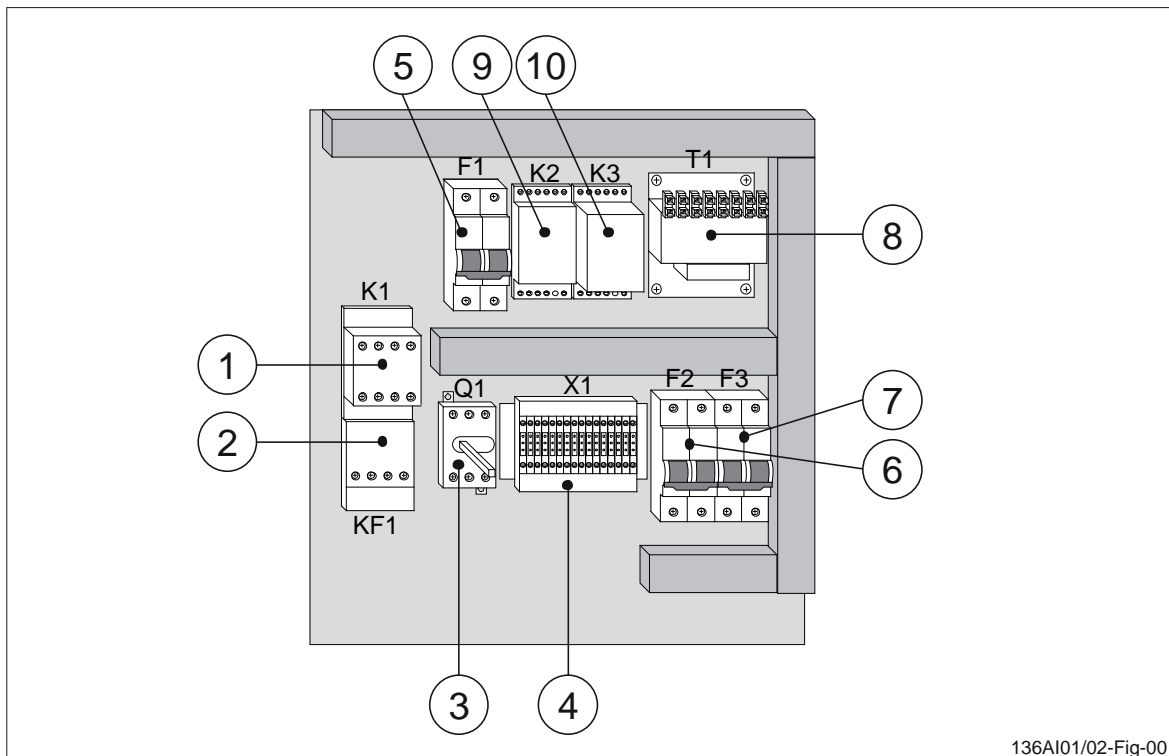

Figure 15 Internal equipment of pump motor starter P5.
After a voltage failure, the time relay K3 (pos 10, figure 15) will be activated after 5 seconds and it activates main contactor K1 (pos 1, figure 15) and the drain oil pump motor starts automatically.